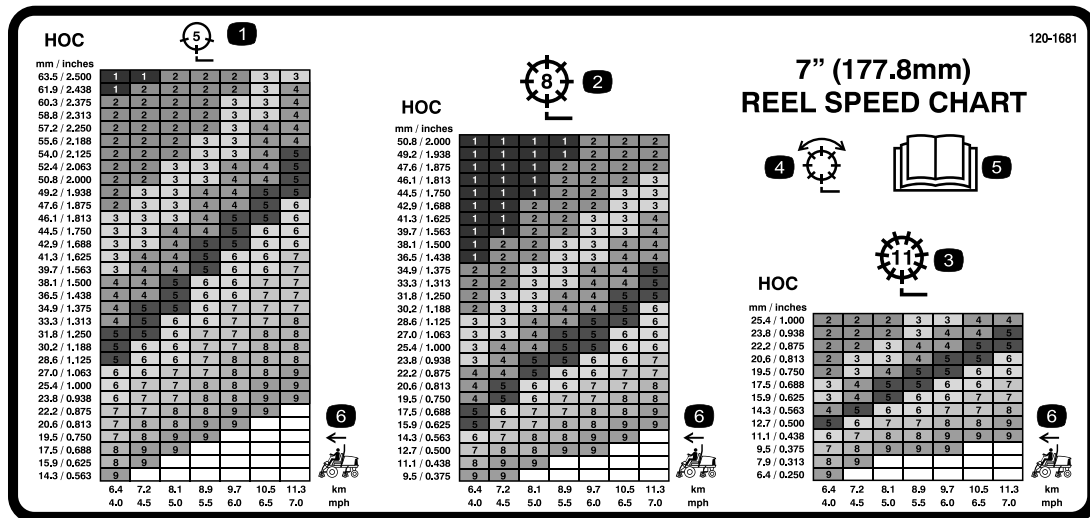

Figure 33
3. Using the appropriate graph on the decal (Figure 33) determine the proper reel speed setting.